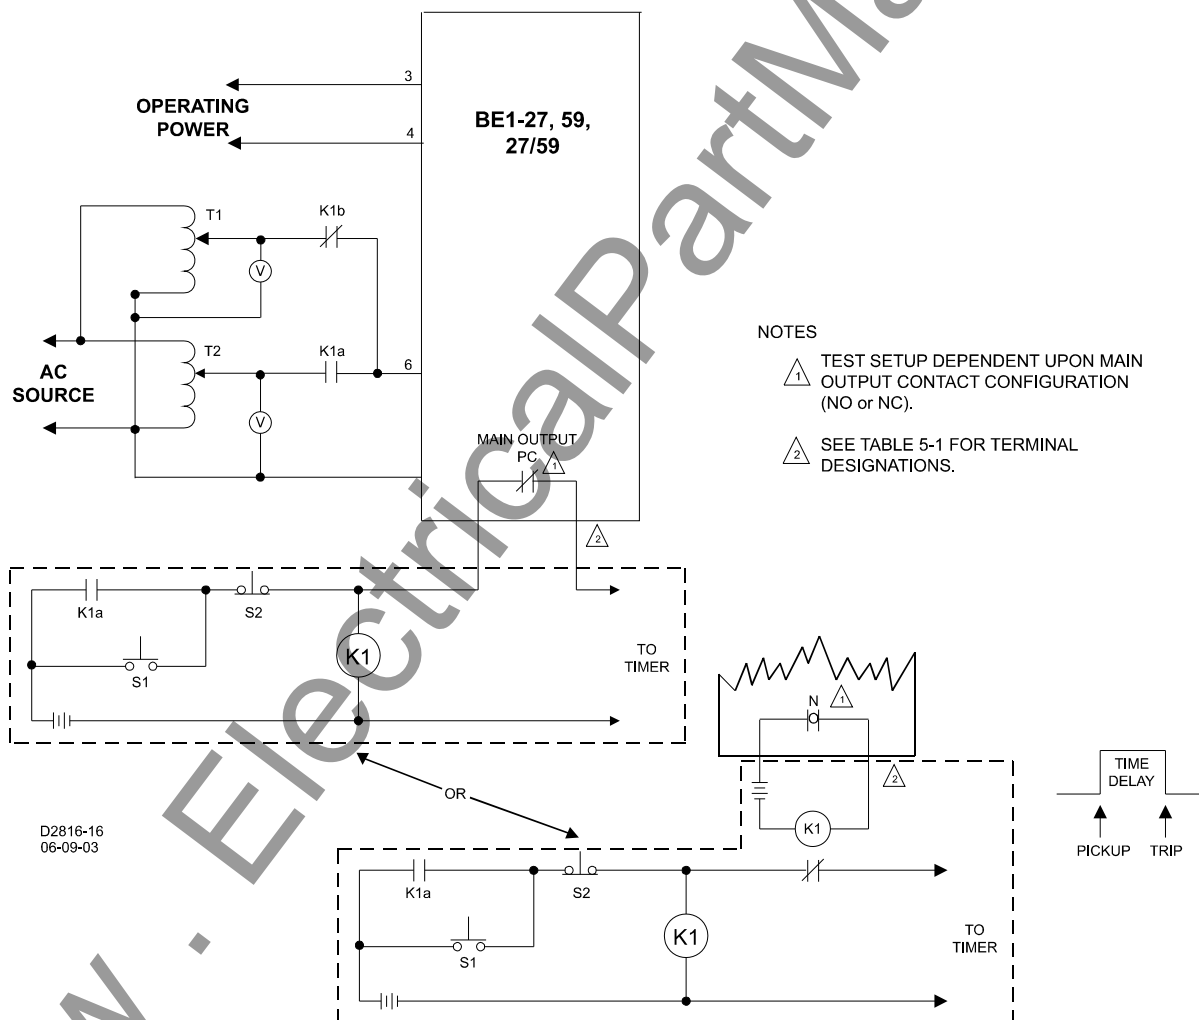

Figure 5-2. Timing Test Circuit Diagram
Step 1. Connect the test circuit shown in Figure 5-2. Output terminal connections are dependent on the function to be tested. See Table 5-1.